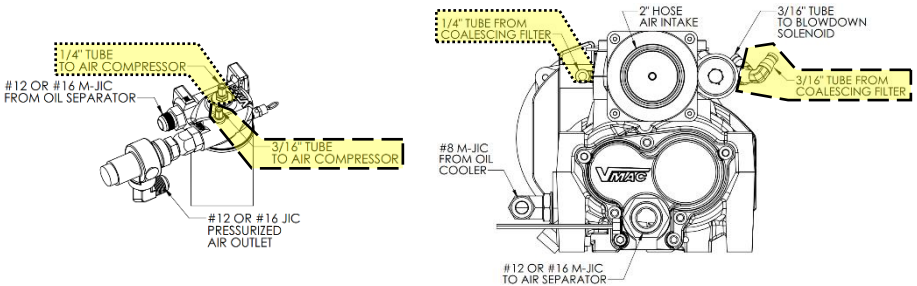

Figure 7 – Scavenge and Pressure Signal Line Connections
- Connect the scavenge line from the top left side of the air compressor to the center top of the coalescing filter (Figure 7 – dotted line). The tube size and type is 1/4" PTFE tube with specialized wall thickness and formula to withstand the high pressures, temperatures, and oil used.
- Connect the pressure signal line from the front top right side of the air compressor to the top front right of the coalescing filter (Figure 7 – dashed line). The tube size and type is 3/16" PTFE tube with specialized wall thickness and formula to withstand the high pressures, temperatures, and oil used.